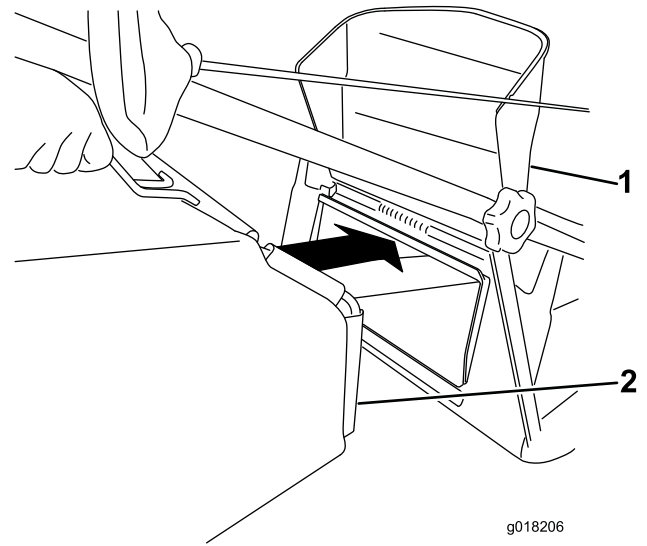

Figure 15
3. Hook the grass bag into position (Figure 15).